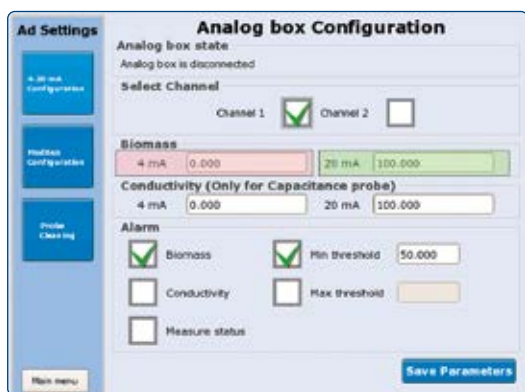

Figure 89: Software configuration of the 4-20 mA Box for Cell Density measurements.
2. Select the Channel to configure the output range after 4-20 mA current output. Enter the cell density measurement values for 4 mA and 20 mA output (Figure 89).